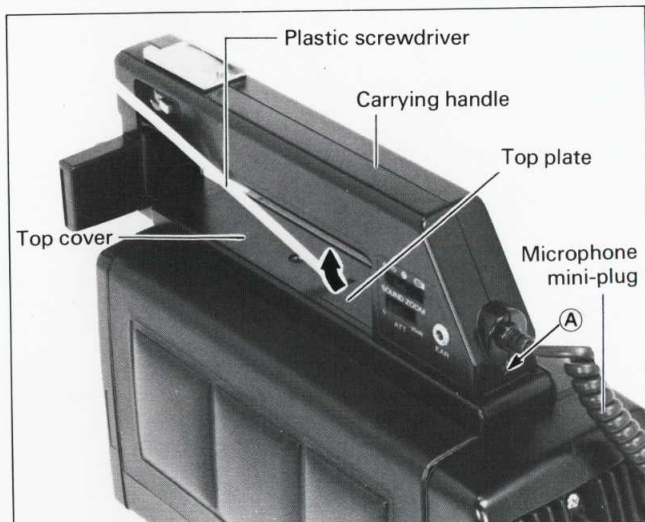

Fig. 9-1 Removal of the top plate
- (1) Remove microphone mini-plug and screw (A) shown in Fig. 9-1. Put a straight-slot screwdriver into the indent of the top plate and remove by lifting it in the arrow-indicated direction.